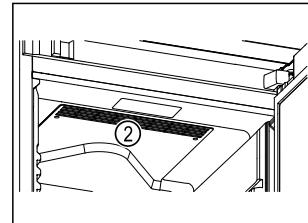

Fig. 61
- Ventilation slots Fig. 61 (2) for recirculation fan in the interior must be kept clear.